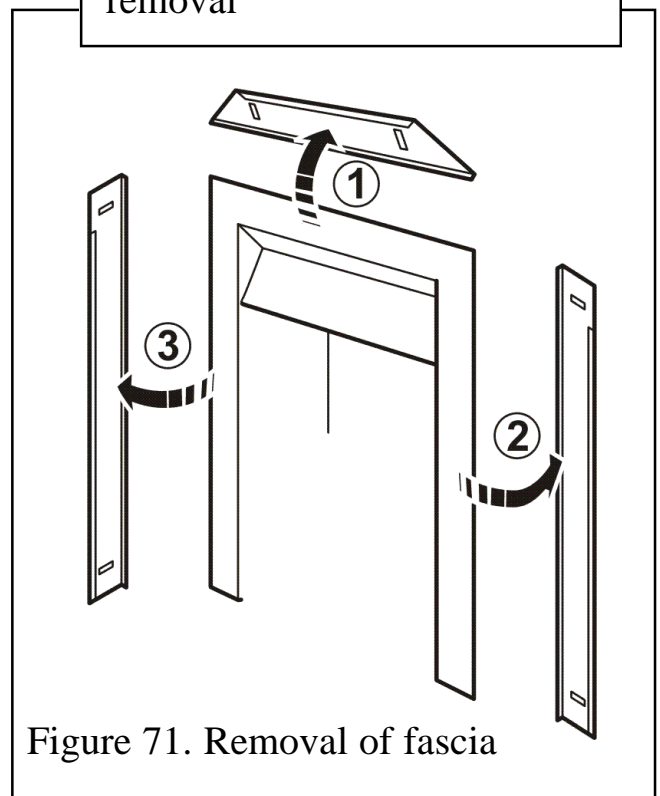

Figure 71. Removal of fascia
2. The fascia is made up of three trims. These trims are held in place by magnets. Remove the top trim by pulling forward. Place carefully aside (See figure 71).
3. Remove the side trims by pulling forward. Place carefully aside (See figure 71).